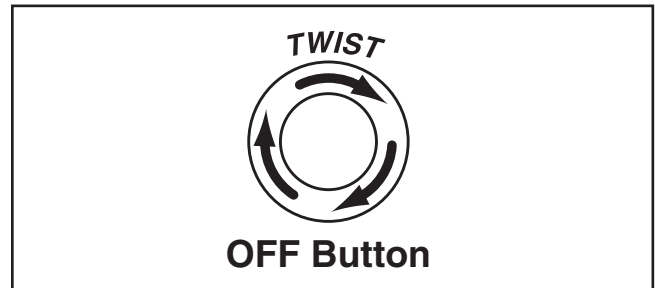

Figure 42. Resetting the OFF button.
- e. Push the OFF button in, then twist it clockwise so it pops out. When the OFF button pops out, the switch is reset and ready for operation (see **Figure 42**).